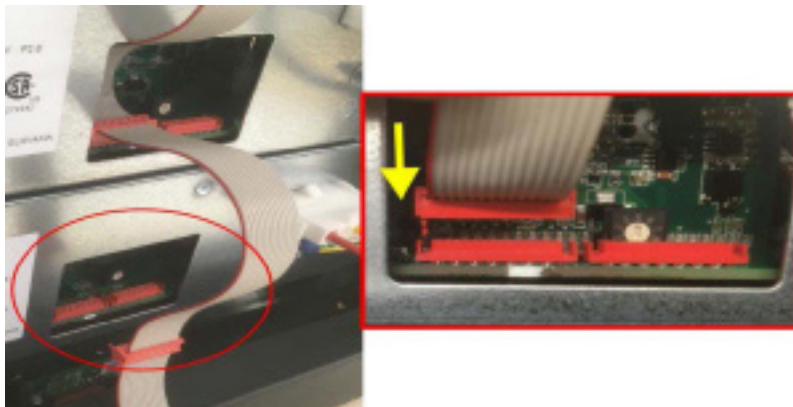

Figure 34 Flat Cable Reconnection to the Power Module
9.1.7.1. Connect the flat cable(s) to the power module (Figure 34).